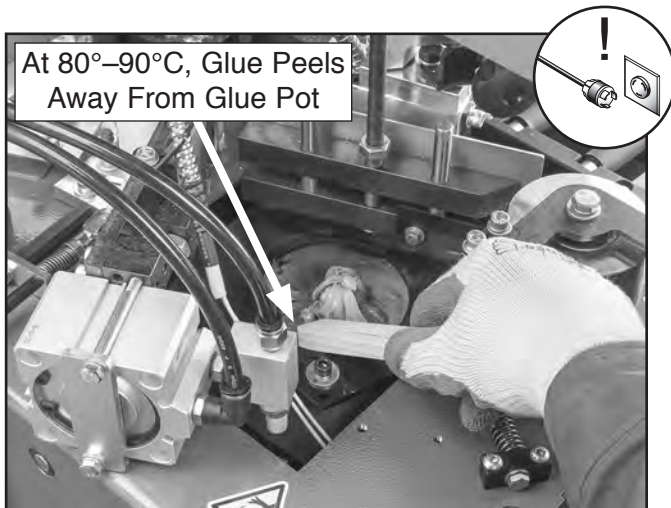

Figure 80. Using wood stick to peel glue away from glue pot for glue removal.
3. Use wood stick (approximately 6" x 1" x 1/2") to peel up one side of glue, as shown in **Figure 80**.